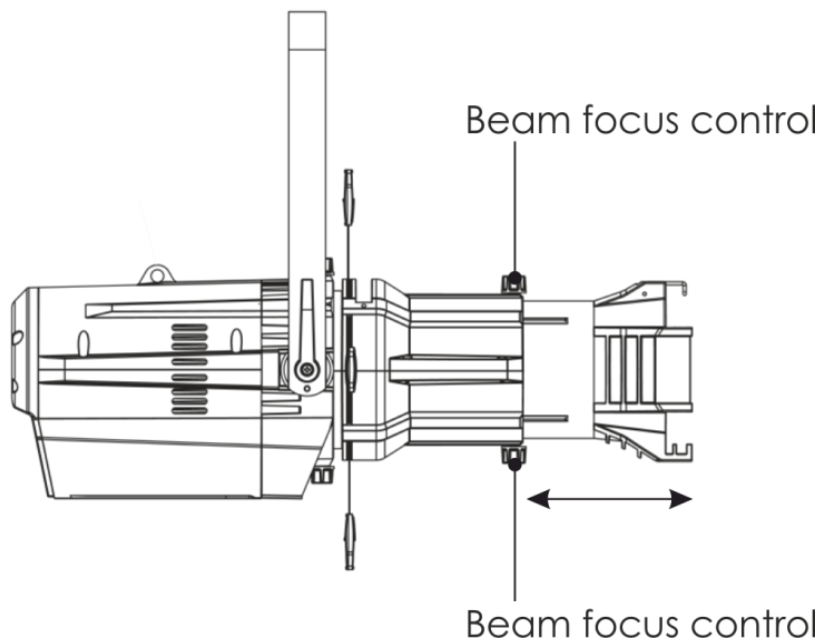

Fig. 04
- 01) Loosen the beam focus controls located under the barrel (Fig. 04).